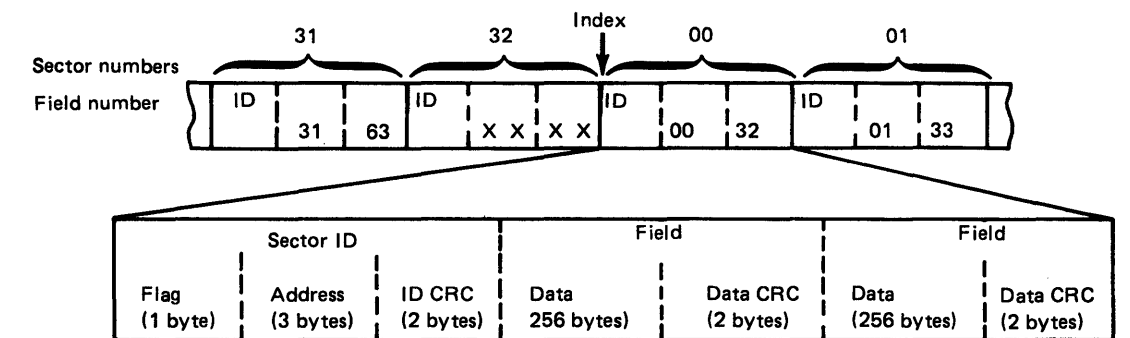

Figure FA452-5. Sector Format
**Sector Format.** Each sector (see Figures FA452-5 and FA452-6) has a gross length of 600 bytes and is made up of three basic areas: